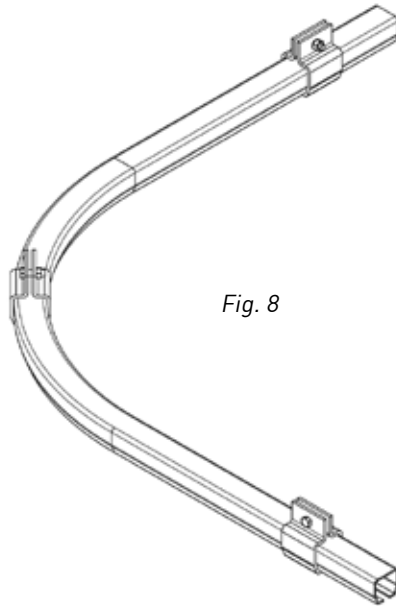

Fig. 8
- The initial stage of a bend section installation requires minimum three support brackets, two at both ends and one the middle of the bend, as illustrated in fig. 8. These support brackets must not be omitted in any case.